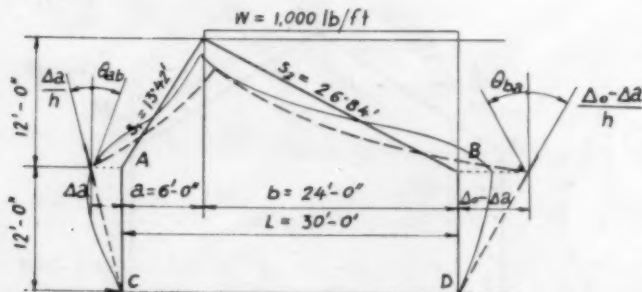

Fig. 22.
**North-light Frame.**—The load functions for a north-light frame (Fig. 22) are calculated as follows. For a uniformly-distributed load  $w = 1000$  lb. per ft.,